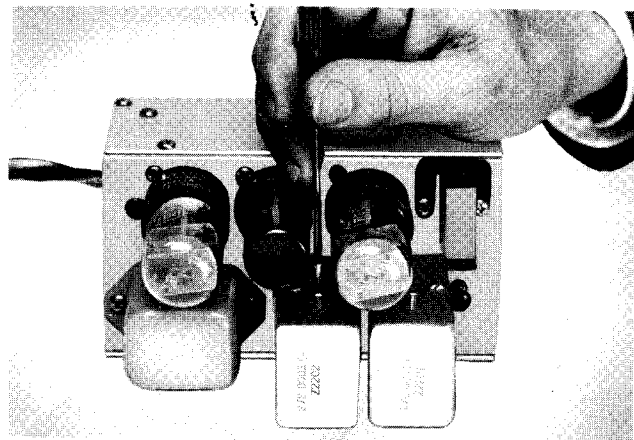

Figure 5-10. MCW-CFI Unit Adjustment
(4) Raise the unit until the connector plug is disengaged and lift the unit out.
(5) Connect an extension cable to MCW-CFI jack J111 in the transmitter and to unit plug P2201.
(6) Turn LOCAL-REMOTE switch S107 to the LOCAL position.
(7) Connect earphones to the sidetone circuits by inserting the earphones cord plug into SIDETONE jack J104.
(8) Rotate CHANNEL selector switch S108 to the MANUAL position.
(9) Turn EMISSION selector switch S110 to the VOICE position.
(10) When the Autotune cycle has been completed, rotate Control "C" to any dial reading, taking care to approach the chosen setting clockwise through at least one-eighth turn and to set the dial accurately.
(11) Rotate Control "A" to position 1.
(12) Turn power level switch S106 to the CALIBRATE position. (Applies 1150 volts dc to plate of V104.)
(13) Adjust SIDETONE gain control switch S202 to position 2 and search for calibration beat signals by rotating Control "B".
(14) If beat signals are not found, insert a small screwdriver in the slot of inductor Z2201A tuning adjustment screw, adjacent to which is stamped the number "200". Rotate this screw, while continuing to rotate Control "B", until a beat signal is heard, indicating operation of the crystal oscillator. Refer to figure 5-10.
(15) If a loud squeaking rush noise appears as soon as the crystal oscillator functions, adjust inductor Z2202A tuning adjustment screw, adjacent to which is stamped the number "150", until this noise disappears. Absence of such noises is one indication of correct unit operation.